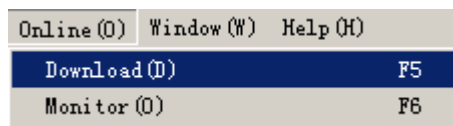

Figure 58 Select the Download Command
Step 3. Set the key switch in the controller panel as **PRG** or **REM**, and Select [Online]-[Download] in the menu bar, as shown in Figure 58.